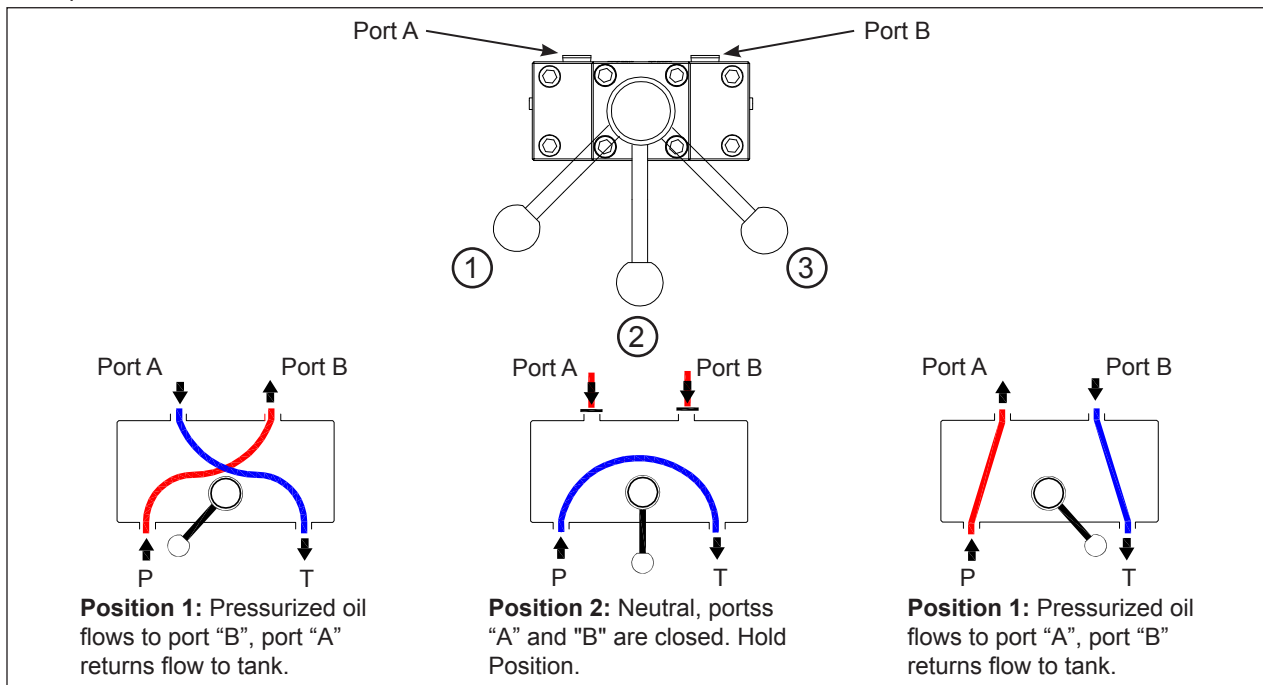

Figure 2 - PA7550M Flowpath of the valve positions and operations
3. Shift the valve to desired position. There are three positions available, refer to Figure 2 on below for the flowpath.